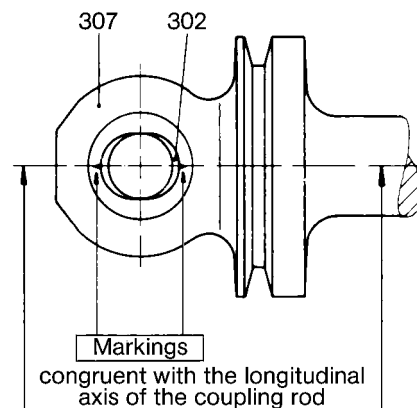

Fig. 6: Installation of the coupling
- **ATTENTION** Clean and **degrease** the shaft of the drive and the bore of the hollow shaft (125).
- Slide the flinger ring (123) over the hollow shaft (125).
- Slightly grease the seat of the clamp set (123) on the hollow shaft (125) and push the clamp set (123) until the stop over the hollow shaft (125).
- Push the hollow shaft (125) until the stop over the shaft of the drive.
- **ATTENTION** All clamp set bolts must be tightened until the front surfaces of the inner ring and the outer ring flush and the fastening torque of the bolts considerably increases (Please refer to Fig. 6 "Operational condition"). The max. permissible fastening torques are engraved on the clamp set (123).
- Drive guide bushes (303) with brass taper drift half way into rotor (401) and hollow shaft (125).
- Press coupling rod bush (302) into coupling rod (307) so that the longitudinal axis of the oval hole (marked with two notches) coincides with the longitudinal axis of the coupling rod and the coupling rod bushes symmetrically extend on both sides of the coupling rod (not applicable to size 51, 101). Please refer to Fig. 6.